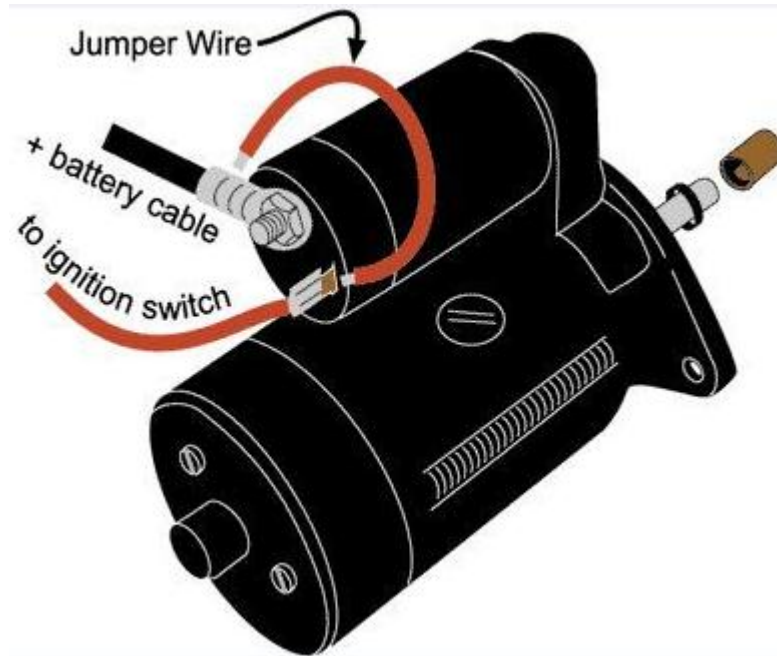

Fig. 6
- Connect a thick jumper lead (preferable a battery "slave cable") to the positive side of the battery, and the other side of the jumper lead to the "live wire" terminal of the starter motor. Refer to Fig. 6.